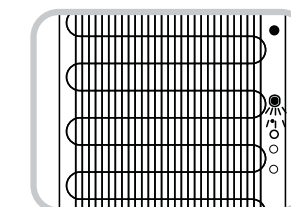

Fig.5
10. Turn counterclockwise to open the drain cap and drain the water from the tanks. Do not tilt the unit to drain the water. (Fig. 5)